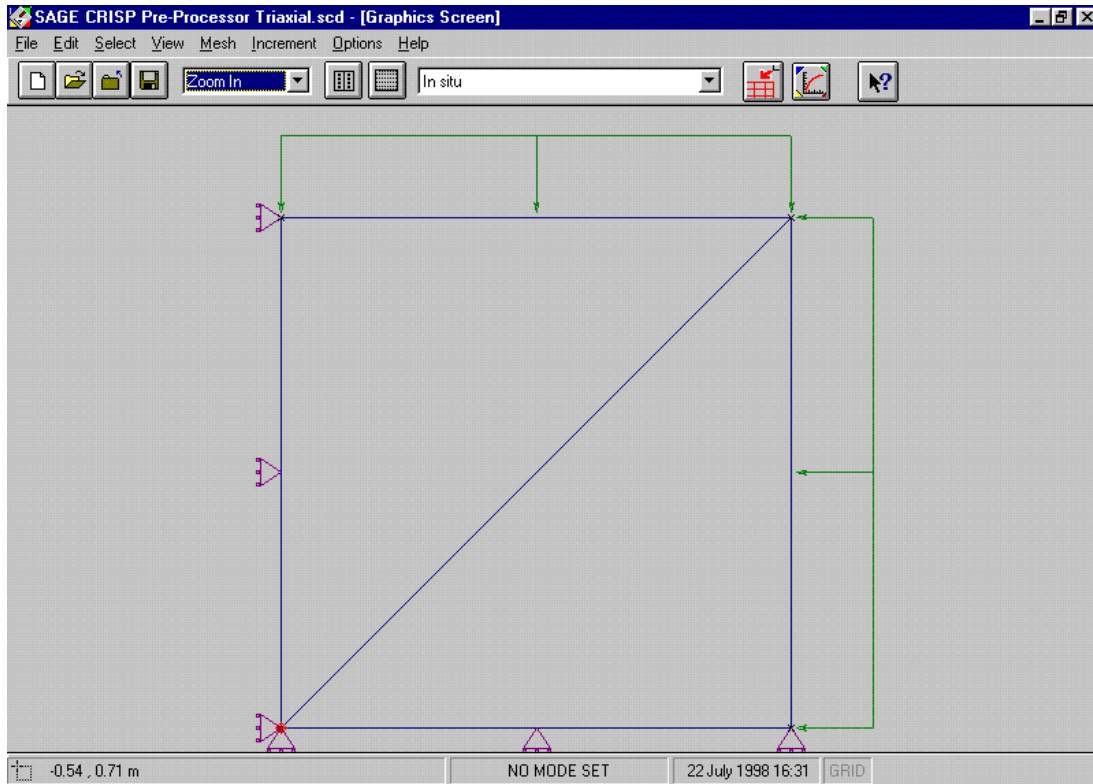

Figure 3-17: Loads and Fixities at In Situ Stage
- Step 6** The Graphics Window should now look similar to Figure 3-17.